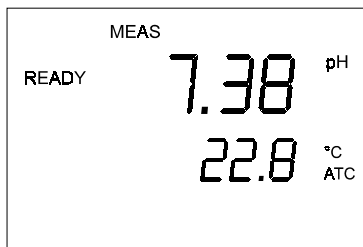

Figure 20 - READY
5. To toggle between pH and conductivity readings, press the MODE key. See Figures 20 and 21.